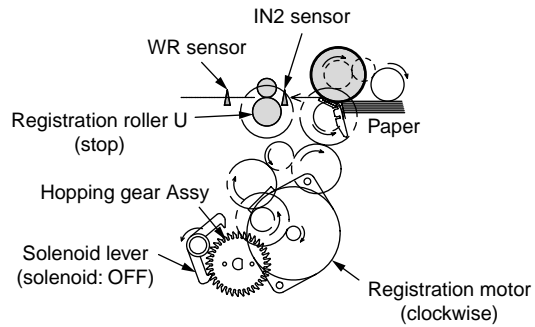

Figure 2-3
1. As illustrated in Figure 2-3, when the solenoid is OFF, the registration motor rotates (clockwise), transporting the paper until the IN2 sensor comes ON. (As the registration motor rotates clockwise, the MPT paper feed roller is driven.)